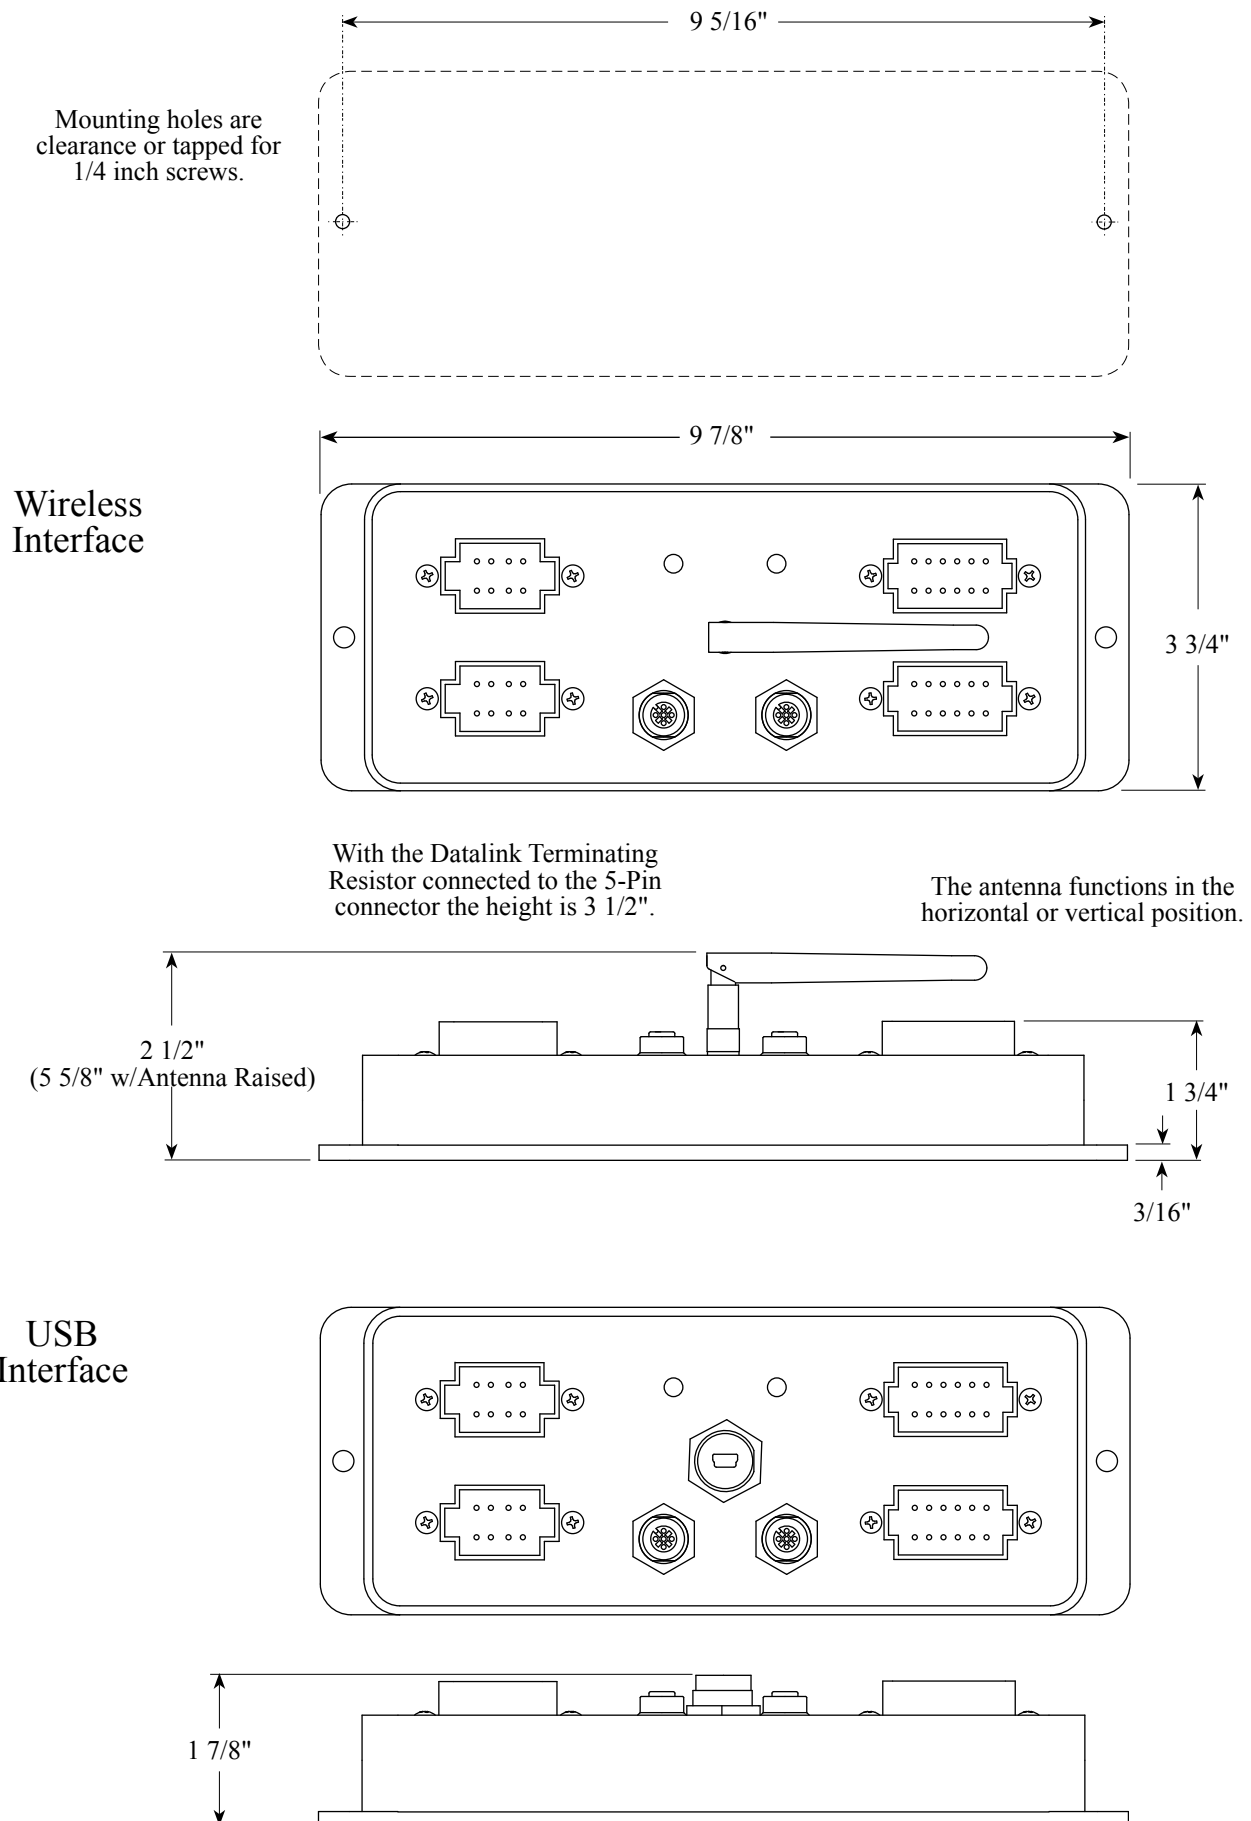

Figure HM-8. 12-Seat VDR Mounting Dimensions
1. Measure and mark mounting location for vehicle data recorder mounting screw holes. Make sure there is clearance for the VDR, antenna, and cables before drilling holes. Refer to Figure HM-8 for layout and dimensions.